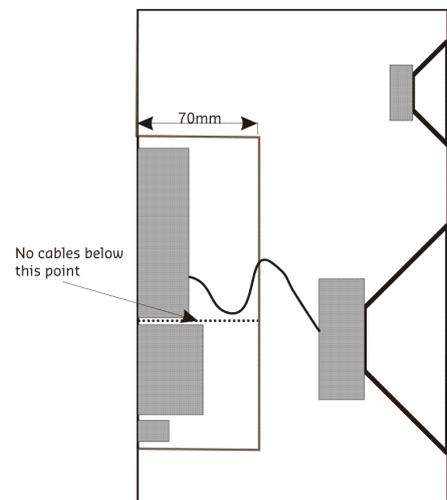

Figure 11
2. Keep at least 70mm between the module front plate and the back of the enclosure, see Figure 11.
3. Do not lead any single insulated speaker-cable below the indicated line in Figure 11. With double insulated cable you are allowed to lead the cables below this line.